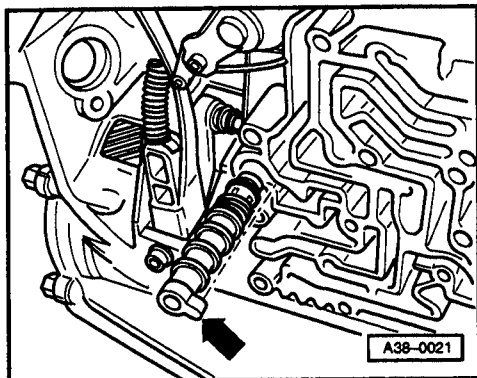

Fig. 1 Inserting plug
- ◆ Insert such that lug is located in groove at case ⇒ Fig. 1, Page 38-48
- ◆ Pulling out ⇒ Fig. 1, Page 38-59